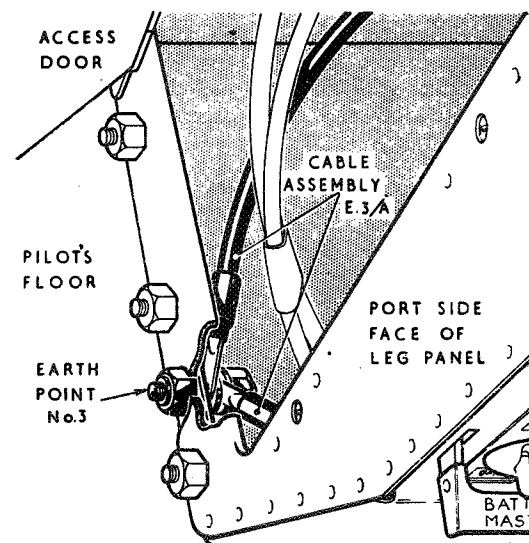

Fig. 4. Earth point 3
- (1) Render the aircraft electrically safe, as described in Group A1 of this chapter.
- (2) Disconnect the Bowden cable from the rudder bar release lever at the top of the leg panel and stow it away from the panel.
- (3) Disconnect cable assembly F31 from cable assembly F64 at the plug and socket, located on the starboard side of the instrument panel mounting structure. Remove any straps and clips securing the F31 cable and coil it back to the leg panel. Fit an approved cap and cover to the plug and socket.
- (4) Disconnect cable assembly A11 from cable assembly A12 at the plug and socket break, located on the port side of the instrument panel mounting structure. Remove any straps and clips securing the A11 cable and coil it back to the leg panel. Fit an approved cap and cover to the plug and socket.
- (5) Disconnect cable assembly E3/A from earth point 3, obtaining access via the hinged door in the port side of the leg panel (fig. 4).
- (6) Disconnect all the plugs and sockets on the cable assemblies at the leg panel. Seal off the plugs and sockets with approved caps and covers and stow the cable assemblies away from the panel.